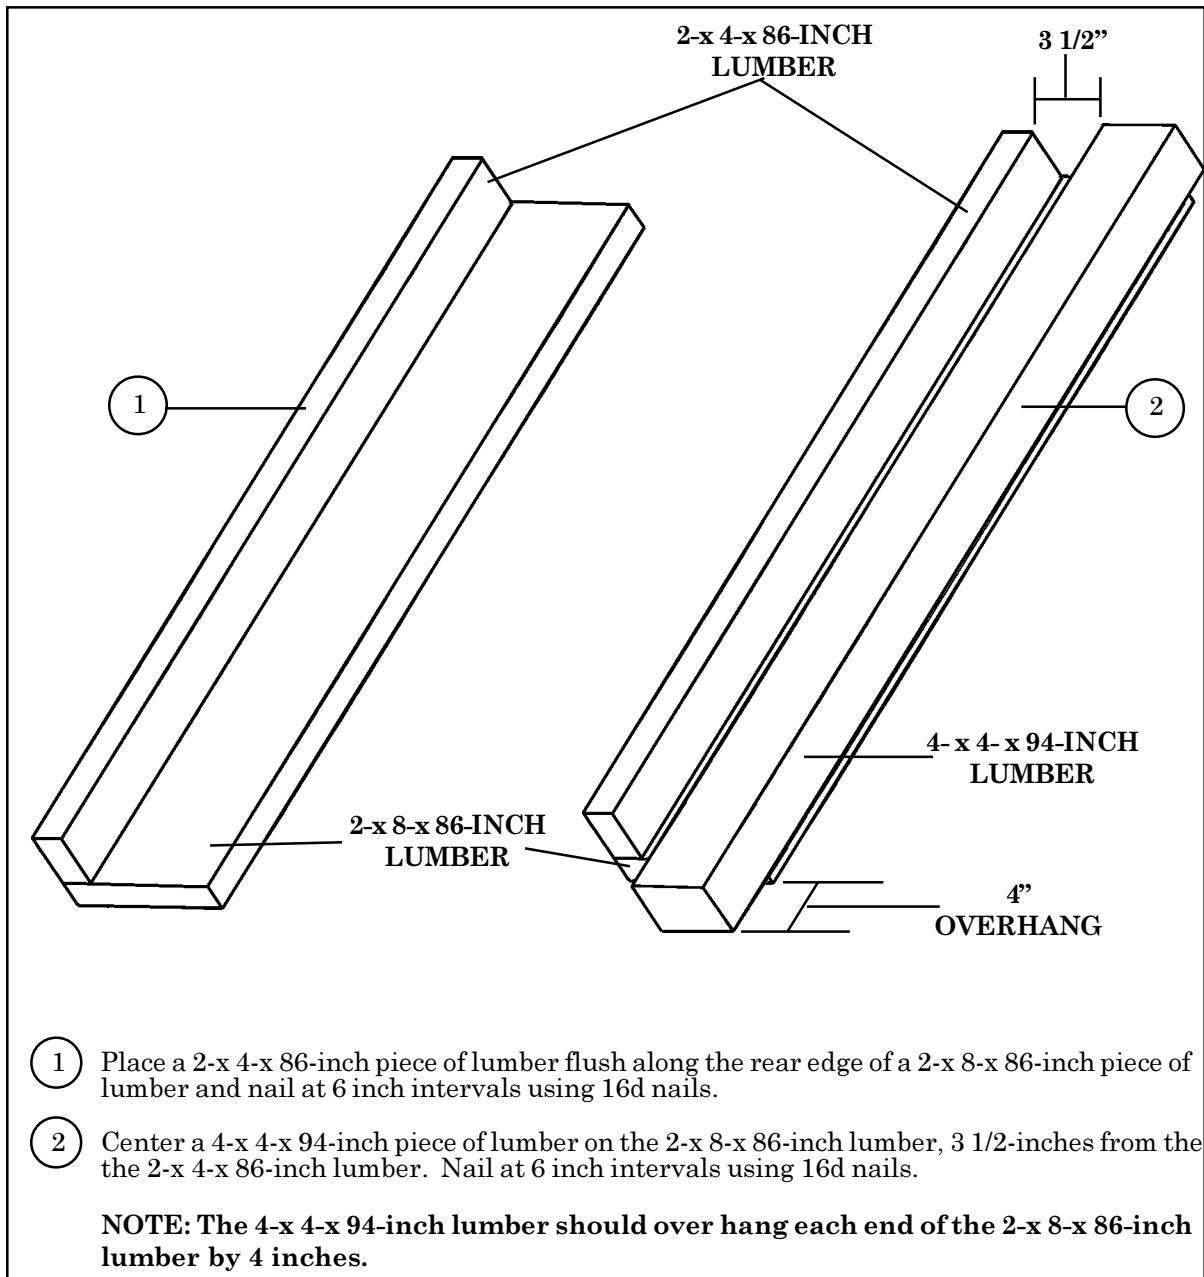

Figure 3-32. Attitude Control System Assembled
a. *Assembling the ACS.* Assemble the ACS as shown in Figure 3-32.